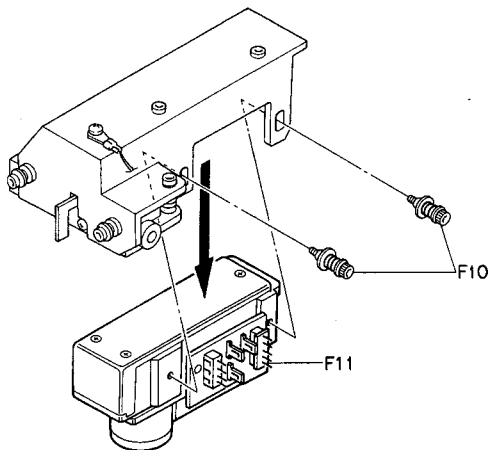
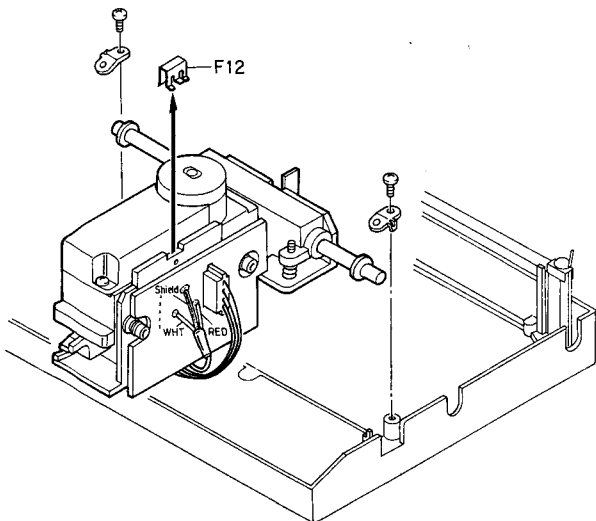

Fig. 2.5
Fig. 2.6
- (6) Loosen F10 and remove F11 (Pickup). See Fig. 2.5.
- (7) Mount a new Pickup and temporarily fasten it with F10. See Fig. 2.5.
- (8) Remove the conductive sponge of the new Pickup.
- (9) Mount F09 on the new Pickup by soldering. Plug in the two connectors and solder the two-core shield cable to the original place. Soldering of the shield cable must be made in the order of GND wire with black tube and then signal wires.
- (10) Mount the new Pickup by reversing the disassembly procedures.
- (11) Pull F12 (shorting pin) out of the Pickup. See Fig. 2.6.